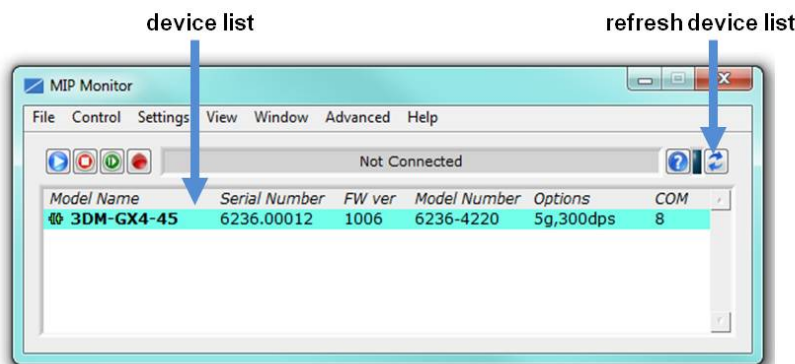

Figure 8 - Sensor Communication
3. The sensor should appear in the device list automatically when the software is opened, and includes the device information and communication port assignment (Figure 8 - Sensor Communication). If it is not automatically discovered, use the refresh button to search for the sensor.